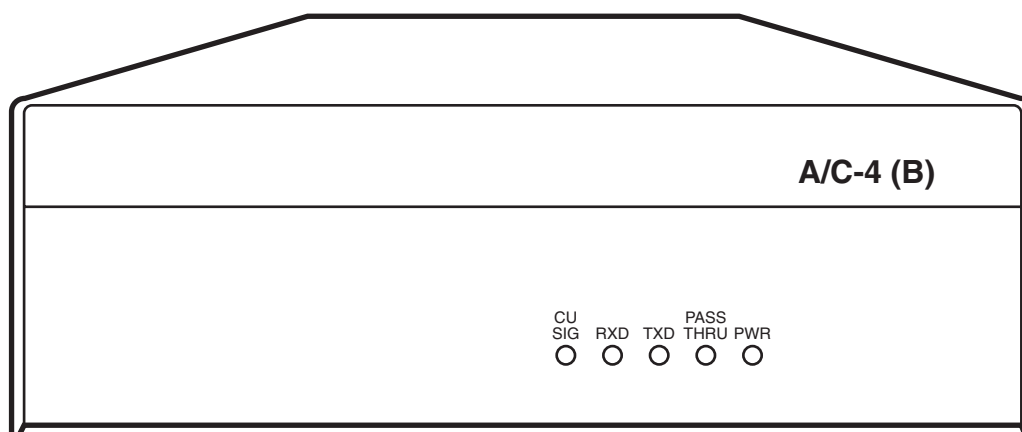

Figure 1-1. A/C-4 (B) Unit.
- **Emulation** — All A/C-4 (B) models provide the same 3278 emulation functions.
- **Type** — The Standard and Deluxe models are both standalone units, as illustrated in Figure 1-1.